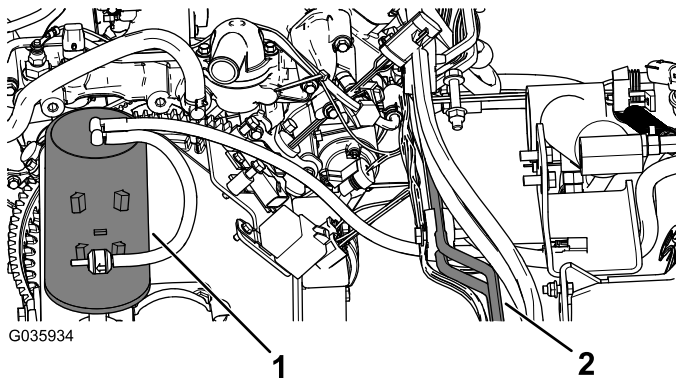

Figure 9
1. Move the carbon canister to the right side of the machine and use cable ties to secure it to the hydraulic hardlines away from moving or hot parts (Figure 9).